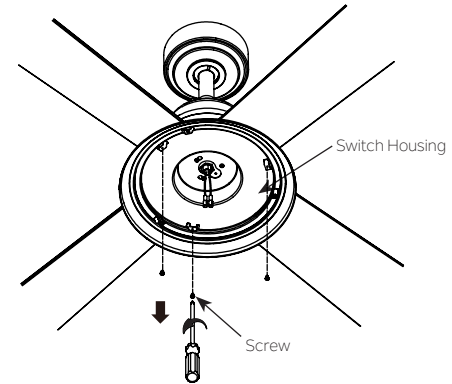

Fig. 20
Step 1. Remove three screws on the light plate assembly and keep for later use. (Fig. 20)